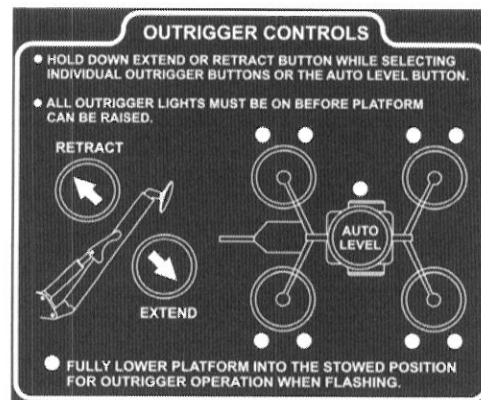

Figure 3-4. Outrigger Control Panel
- Extend the four outriggers individually, or for simultaneous extension use the **AUTO LEVEL (23)** button on the ground (lower) control panel. When the aerial work platform is leveled properly, a buzzer will sound, the two LEDs at each **OUTRIGGER (25 and 26)** button, and the LED at the **AUTO LEVEL (23)** button will be lit. Refer to Figure 3-4.